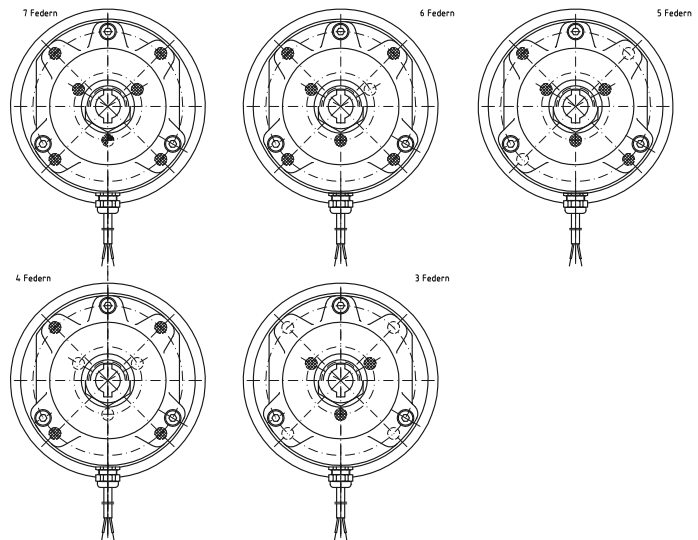
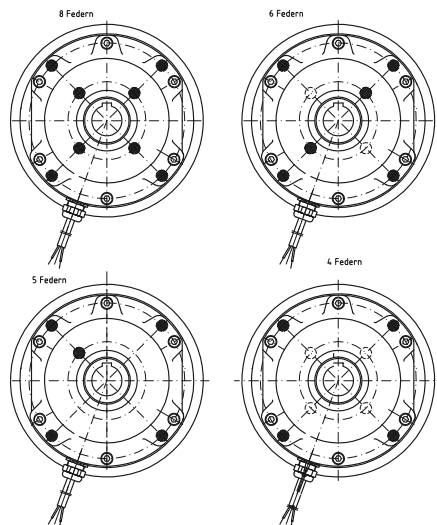

Figure 7.1 Positioning of the springs – Brakes ES(X)010A...ES(X)200A
Figure 7.2 Positioning of the springs - Brake ES(X)250A
Different brake torques (see Brake Technical Data) can be reached by means of differing spring placement (see figure 7.1) in the magnet housing (Pos. 1).
- Insert the new spring set– positioning see figure 7.1 and figure 7.2